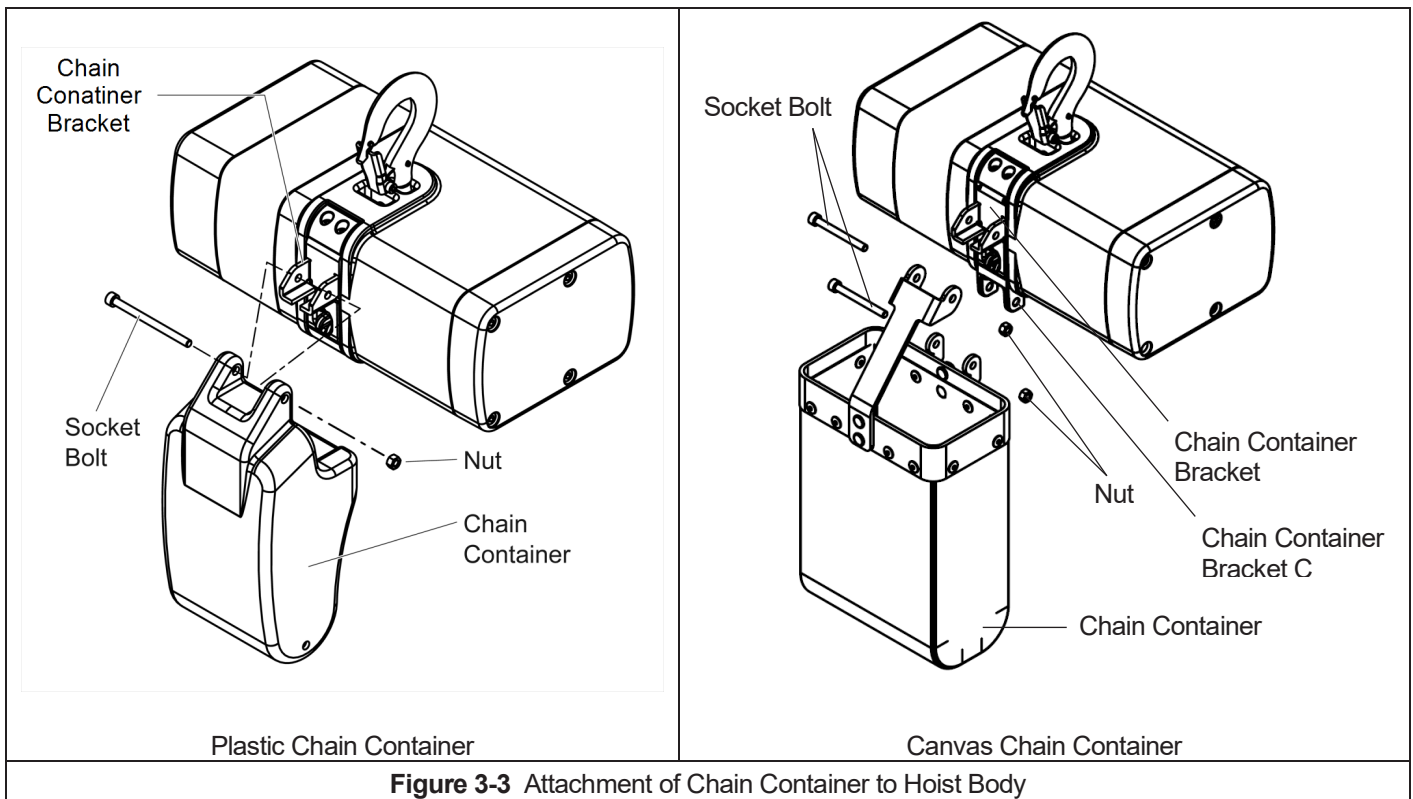

Figure 3-3 Attachment of Chain Container to Hoist Body
- 3.2.2 Canvas or Plastic Chain Container – When installing the chain container, refer to **Figure 3-3**. Install a Socket Bolt through one side of the Chain Container then through the Chain Container Bracket and the other side of the Chain Container. For Canvas Chain Container, install the second Socket Bolt through one side of the Chain Container then through Chain Container Bracket C and the other side of the Chain Container. Screw the Nut on to the Socket Bolt and tighten it securely. The Socket Bolt must protrude from the end face of the Nut by three threads or more. The free end of the chain is not attached to the hoist body and the chain stopper is installed on the third or fourth seater link from the free end (see **Figure 3-1**). To place the chain into the Chain Container, feed the free end of the chain into the container. Take care to avoid twisting or tangling the chain. NEVER put all the chain into the container at once.